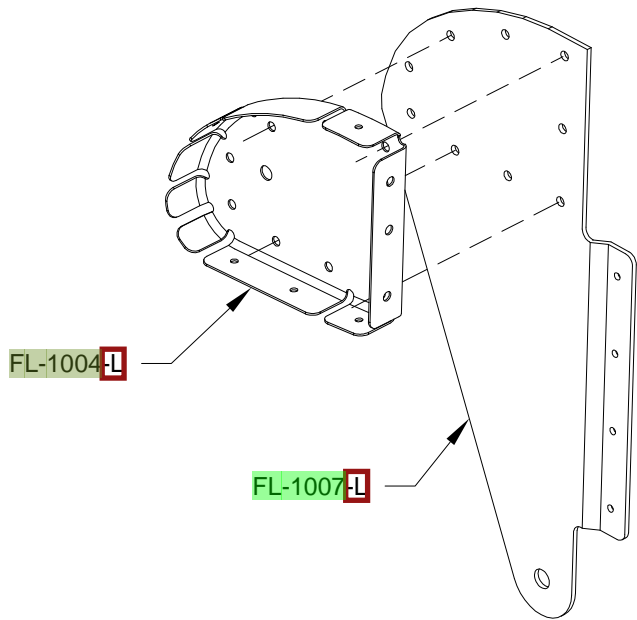

FIGURE 1: LEFT HINGE PAIR RIB SUBASSEMBLY
Step 1: Cleco together two left hinge pair rib subassemblies which are made up of an FL-1004-L Nose Rib and an FL-1007-L Hinge Bracket as shown in Figure 1.